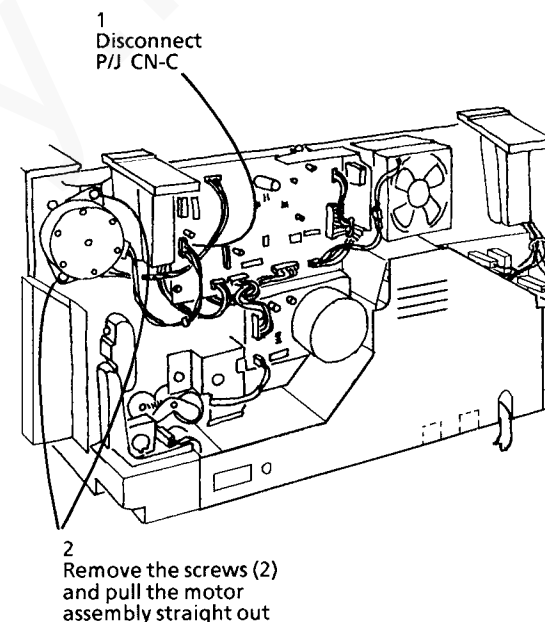

Figure 1. Removing the Scan Drive Motor
3. Remove the Scan Drive Motor (Figure 1).